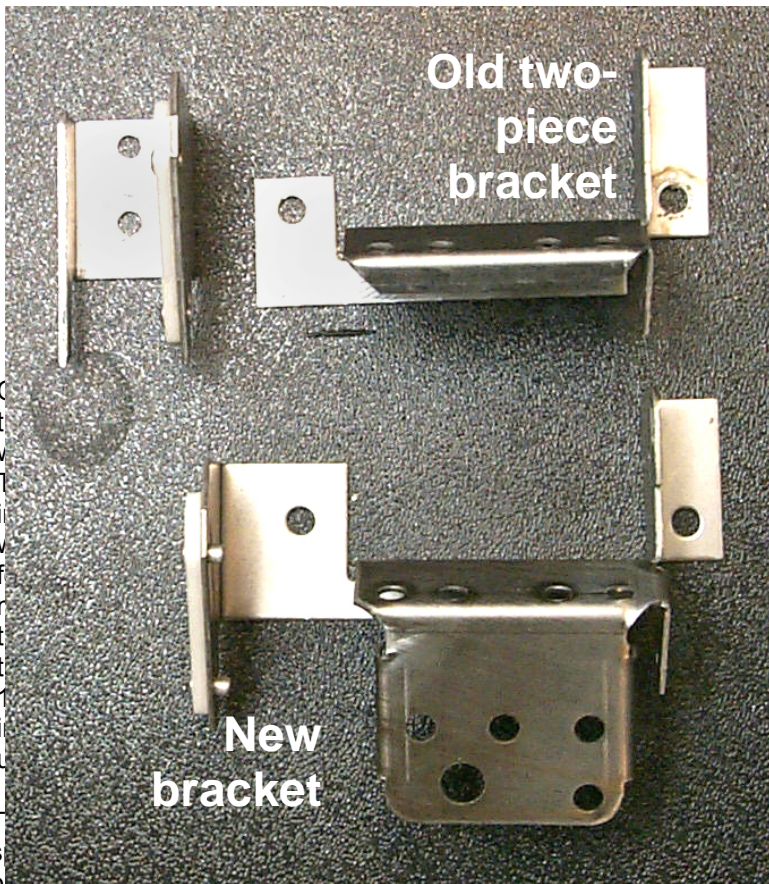

Fig. 2: Position a blank-off plate in the hood as shown and secure in place using its spring-loaded clip.
2. Remove excess oil from the hood and position a blank-off plate, with the spring-loaded clip on the lower side, over the opening at the rear of the hood as shown in Fig. 2. Press in on the spring-loaded clip and maneuver the plate until the clip catches behind the lower rim of the opening.